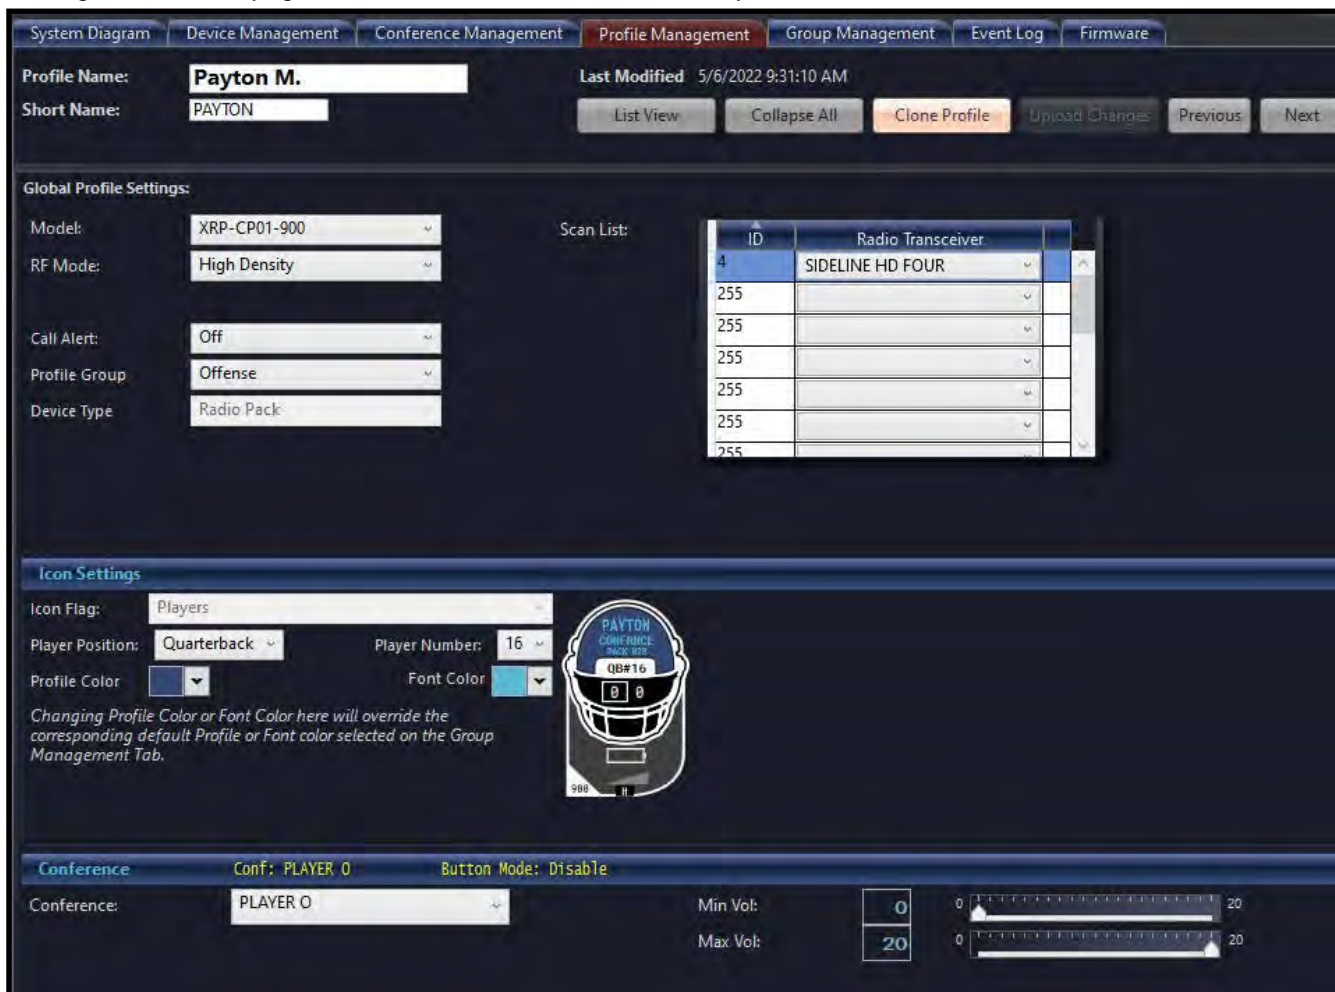

Figure 156: CoachComm X-System Player Profile Example
3. Customize the Player Position and Number in the Icon Settings. See Figure 156 for an example of an CoachComm X-System Player Profile.